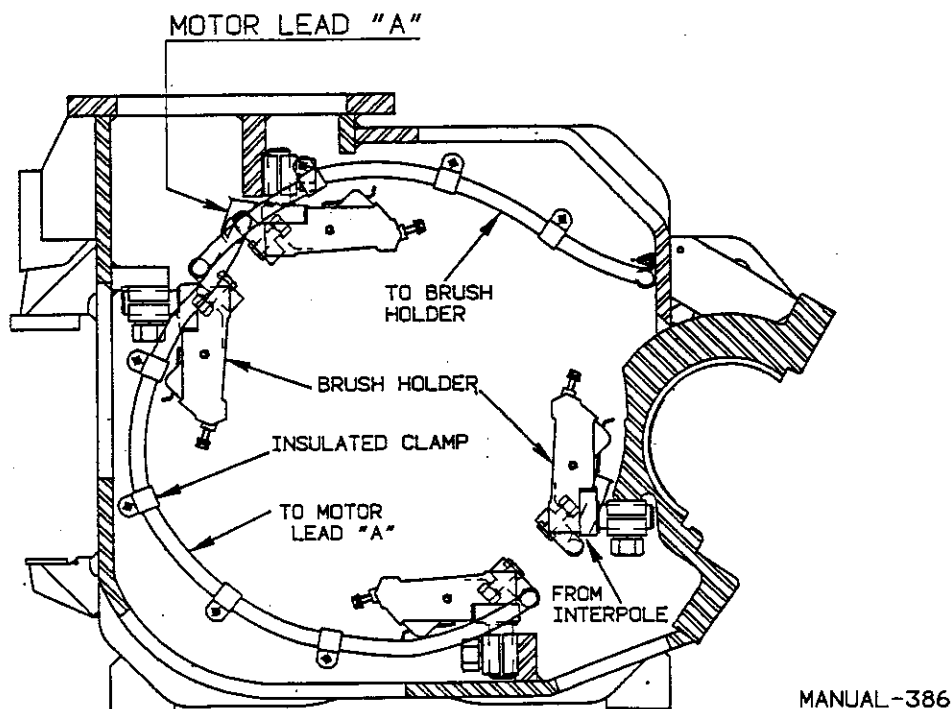

Fig. 26 - Securing Brush Holder Cross Connection
2. Connect brush holder cables using insulated clamps, flat washers and self-locking nuts, or insulation pieces and torpedo twine as shown in Fig. 26.
5. Fasten brush holder cables to frame with insulated clamps. Secure the clamps with flat washers and self-locking nuts as shown in Fig. 26.